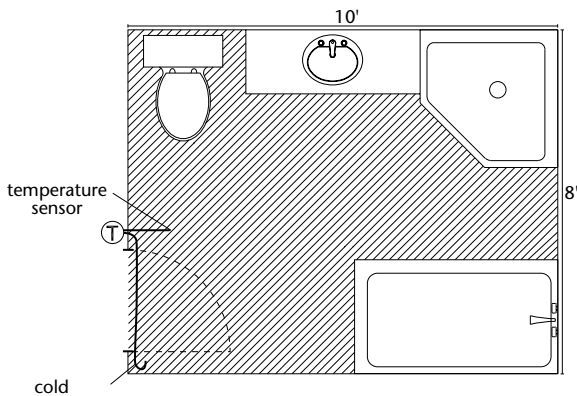

Fig. 4.1
- Identify all stationary elements (toilet, bath, shower, counters, drawers, and permanent furnishings) and never install the heating cable under these stationary elements (fig. 4.1);